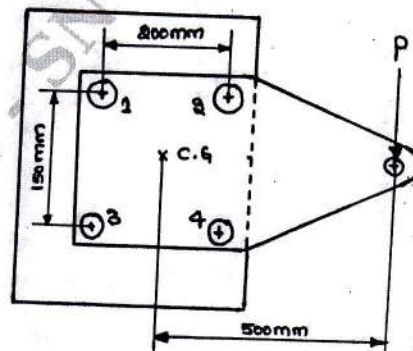

Fig Q9(a)
- 9 a. The structural connection shown in Fig. Q9(a) subjected to an eccentric load of 10kN. All bolts are identical and having shear strength of 80MPa.